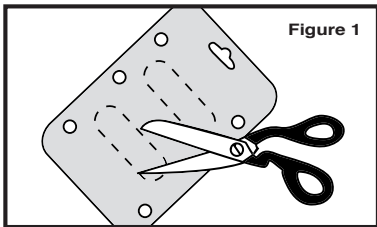

Figure 1
3. Take the plastic package and cut two strips in a shoehorn shape (Fig. 1). Cut these strips approximately 1" wide. Fold the strips down the center length-wise into a "V" shape. Round the edges into a shoehorn shape.